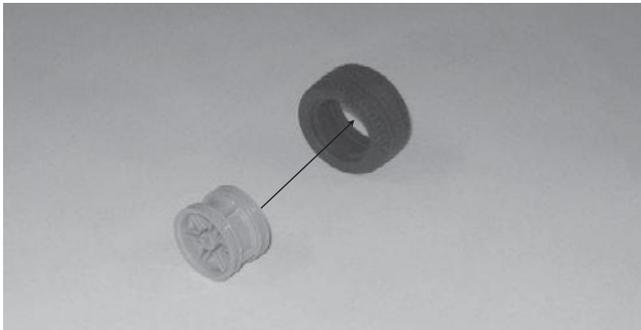

Figure 9.10
Step 1—Create the robot’s right wheel by connecting a rim to a tire as shown in Figure 9.10.